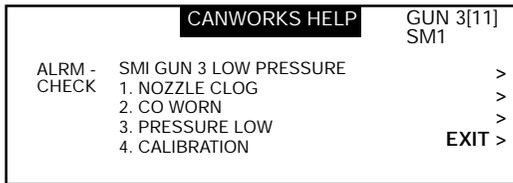

Fig. 3 CANWORKS HELP screen
5. See Figure 3. After reviewing the possible fault condition, select EXIT.